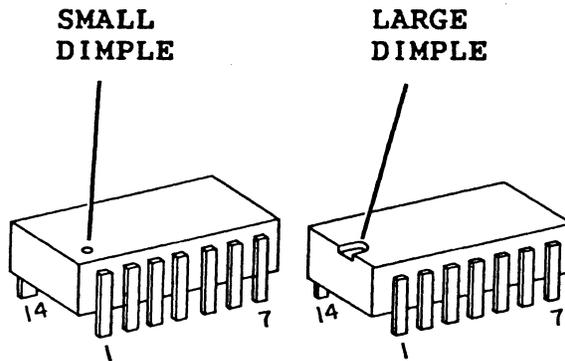

Figure 2. Pin 1 Identification
4. Check that the proper IC's are in the correct sockets, and pin 1 is toward the left rear of the PWB. Pin 1, of the IC, is identified by a small dimple near pin 1, or a large dimple at the pin 1 end of the chip (Figure 2).